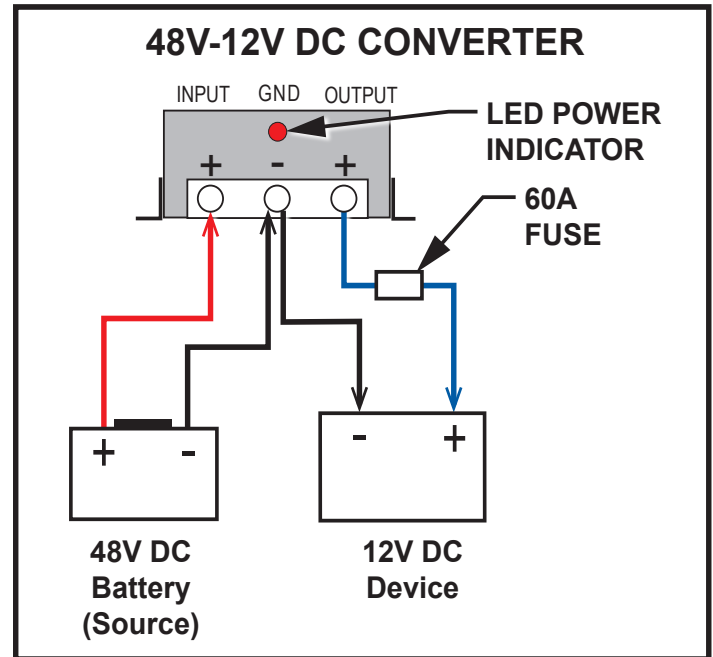

Fig. 1 - Typical Wiring
6. When hardwiring this unit, use 6 AWG copper wire to connect the OUTPUT of the converter to 12V DC devices. Follow the procedure below: (See *Fig. 1* on following page.)